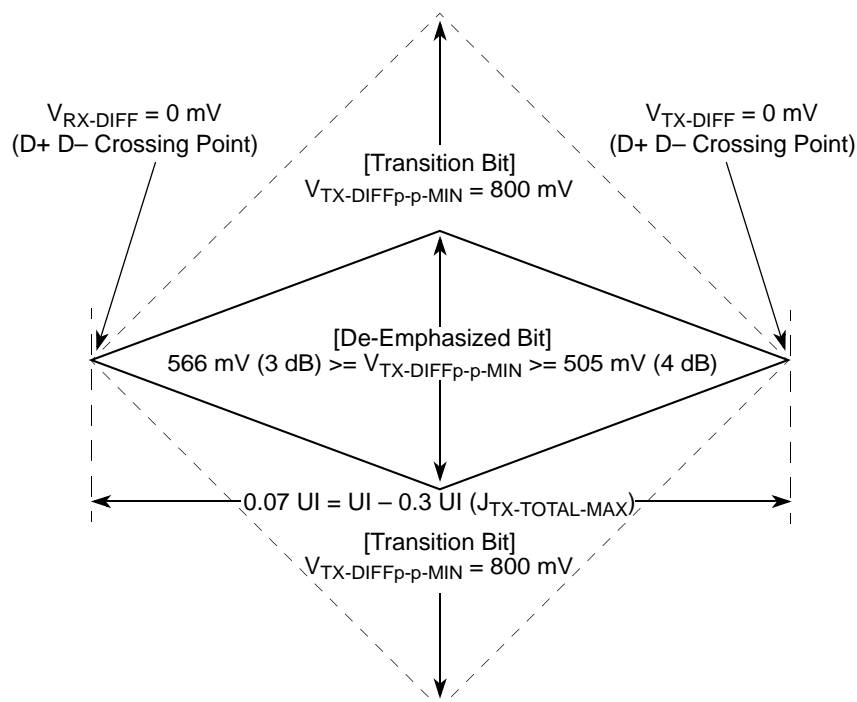
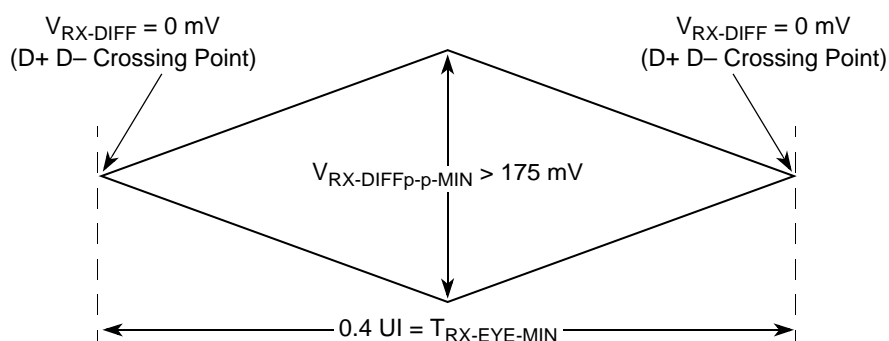
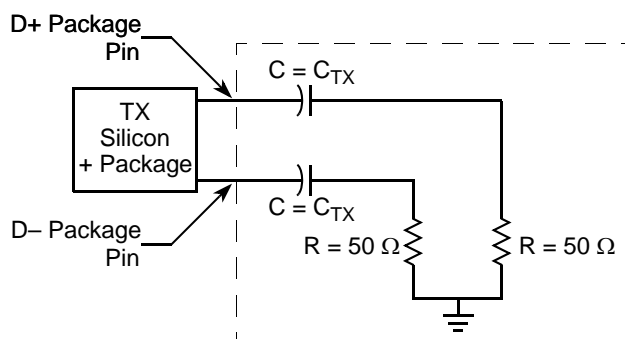

Figure 48. Minimum Transmitter Timing and Voltage Output Compliance Specifications
Figure 49. Minimum Receiver Eye Timing and Voltage Compliance Specification
Figure 50. Compliance Test/Measurement Load
2. Specified at the measurement point into a timing and voltage compliance test load as shown in Figure 50 and measured over any 250 consecutive TX UIs. (Also see the transmitter compliance eye diagram shown in Figure 48.)
4. The transmitter input impedance shall result in a differential return loss greater than or equal to 12 dB and a common mode return loss greater than or equal to 6 dB over a frequency range of 50 MHz to 1.25 GHz. This input impedance requirement applies to all valid input levels. The reference impedance for return loss measurements is 50  $\Omega$  to ground for both the D+ and D– line (that is, as measured by a vector network analyzer with 50- $\Omega$  probes—see Figure 50). Note that the series capacitors  $C_{\text{TX}}$  is optional for the return loss measurement.
5. Measured between 20%–80% at transmitter package pins into a test load as shown in Figure 50 for both  $V_{\text{TX-D+}}$  and  $V_{\text{TX-D-}}$ .
The TX eye diagram in Figure 48 is specified using the passive compliance/test measurement load (see Figure 50) in place of any real PCI Express interconnect +RX component.
2. Specified at the measurement point and measured over any 250 consecutive UIs. The test load in Figure 50 must be used as the RX device when taking measurements (also see the receiver compliance eye diagram shown in Figure 49). If the clocks to the RX and TX are not derived from the same reference clock, the TX UI recovered from 3500 consecutive UI must be used as a reference for the eye diagram.
4. The receiver input impedance shall result in a differential return loss greater than or equal to 15 dB with the D+ line biased to 300 mV and the D– line biased to –300 mV and a common mode return loss greater than or equal to 6 dB (no bias required) over a frequency range of 50 MHz to 1.25 GHz. This input impedance requirement applies to all valid input levels. The reference impedance for return loss measurements for is 50  $\Omega$  to ground for both the D+ and D– line (that is, as measured by a vector network analyzer with 50- $\Omega$  probes—see Figure 50). Note: that the series capacitors CTX is optional for the return loss measurement.
The RX eye diagram in Figure 49 is specified using the passive compliance/test measurement load (see Figure 50) in place of any real PCI Express RX component.
Note: In general, the minimum receiver eye diagram measured with the compliance/test measurement load (see Figure 50) is larger than the minimum receiver eye diagram measured over a range of systems at the input receiver of any real PCI Express component. The degraded eye diagram at the input receiver is due to traces internal to the package as well as silicon parasitic characteristics which cause the real PCI Express component to vary in impedance from the compliance/test measurement load. The input receiver eye diagram is implementation specific and is not specified. RX component designer must provide additional margin to adequately compensate for the degraded minimum receiver eye diagram (shown in Figure 49) expected at the input receiver based on some adequate combination of system simulations and the return loss measured looking into the RX package and silicon. The RX eye diagram must be aligned in time using the jitter median to locate the center of the eye diagram.
The reference impedance for return loss measurements is 50. to ground for both the D+ and D– line (that is, as measured by a vector network analyzer with 50-Ω probes—see Figure 50). Note that the series capacitors, CTX, are optional for the return loss measurement.
The AC timing and voltage parameters must be verified at the measurement point, as specified within 0.2 inches of the package pins, into a test/measurement load shown in Figure 50.